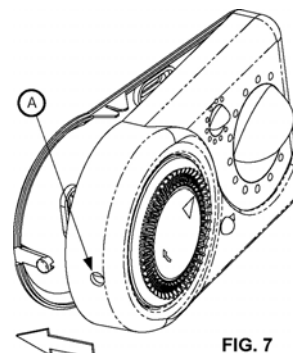

FIG. 7
10. Press the thermostat body towards the plastic base, paying attention to couple the pins on the thermostat with the terminal block on the base. When the thermostat body reaches the plastic tooth 'A' in fig. 7, slight press it with a movement to the internal side, still pressing the thermostat body towards the base, until the tooth snaps in the relevant hole.